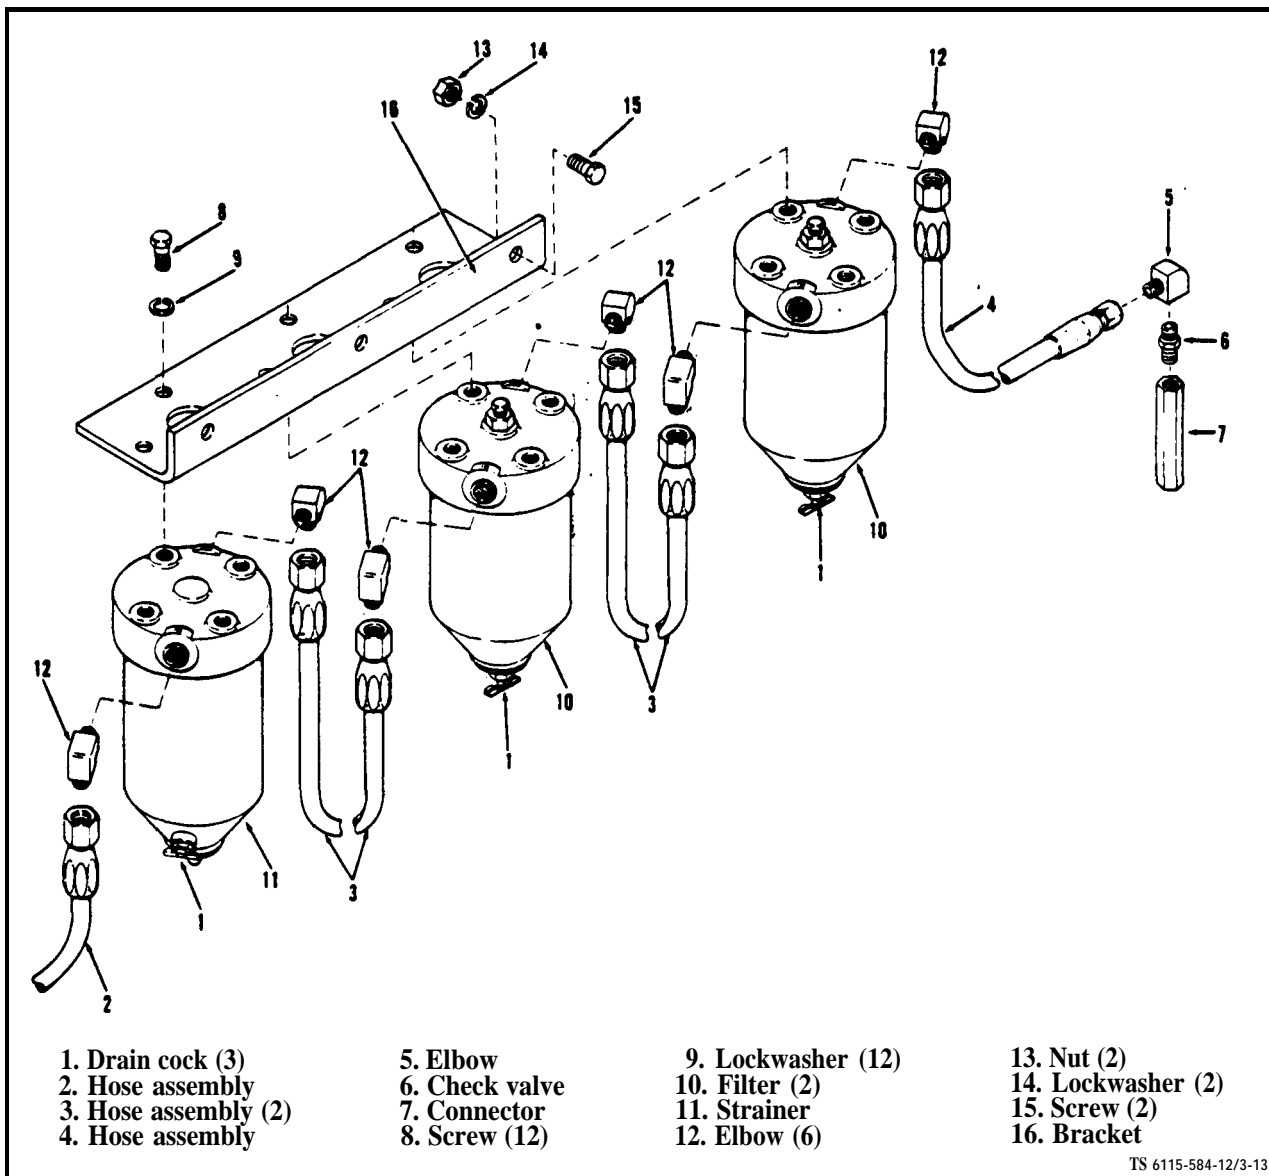

Figure 3-13. Fuel Filters and Fuel Strainer Assembly
(1) Fuel Filter Assemblies (see figure 3-13). Inspect iwo fuel filter assemblies (10) for dents or other
(2) Fuel Strainer Assembly (see figure 3-13). Inspect strainer assembly (11) for dents or other physical damage. Check for leaks especially around fuel line fittings (12), drain (1), or where the bowl joins the head. Check that strainer assembly (11) is securely attached to mounting bracket (16).
(4) Fuel Hoses. Inspect fuel hoses (2, 3 and 4, figure 3-13) for leaks or physical damage. Check to see that fuel hose fittings are securely tightened in place.
(1) Fuel Filter Assemblies (see figure 3-13). Daily before operation, open drain valves (1) and drain water and sediment from filter assemblies.
(2) Fuel Strainer Assembly. Daily, before and after operation, open drain valves (1) and drain water and sediment from strainer assembly (11).